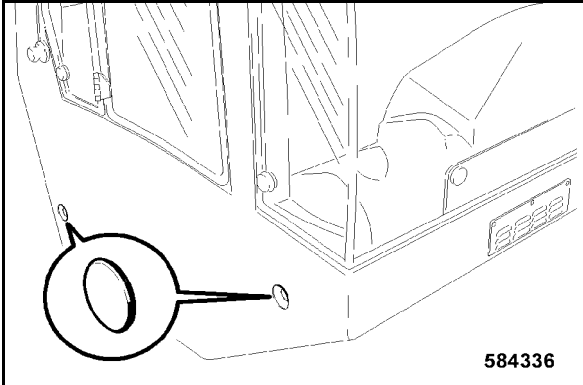

Fig. 221
- Cover all lateral fastening screws with plastic caps (Fig. 221).